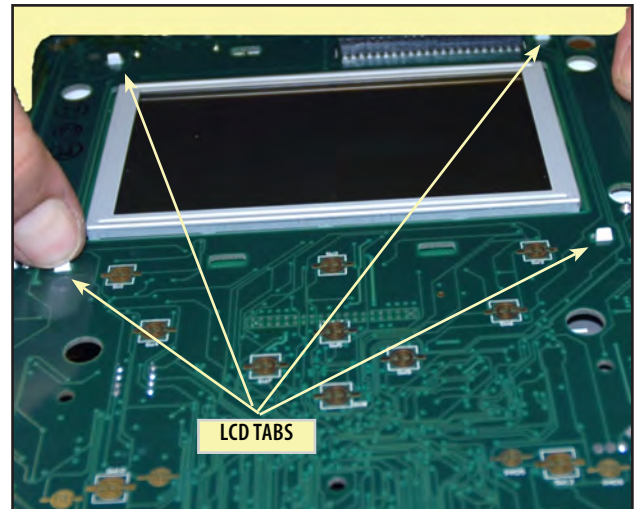

FIGURE 6.21
7. Remove the four LCD Bracket Mounting Screws. See **Figure 6.21**.
9. On the back side of the Control Board, press down and back on the four LCD tabs and push back through the Control Board. **See Figure 6.21.**